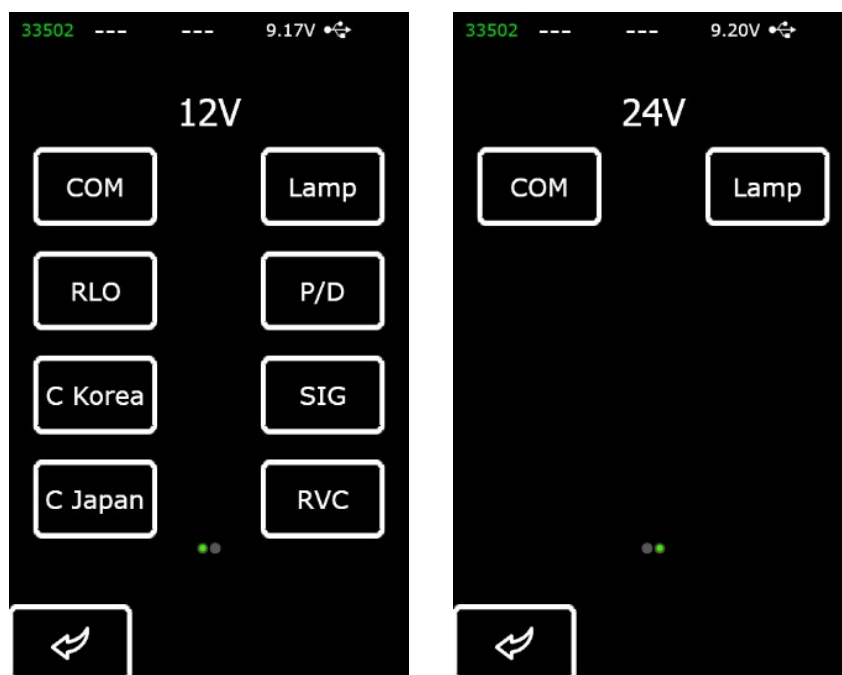

Figure 9 - Menu for selection of the tested voltage regulator type
**WARNING!** The test mode (Fig.9) should correspond to the type of the tested voltage regulator.